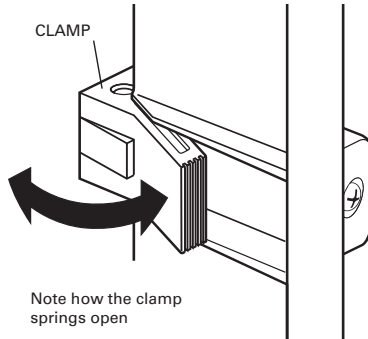

Figure 13: Clamp Close-Up
6. The mounting frame has spring-loaded clamps around its perimeter, which are designed to fold shut as the mounting frame is placed into the wall opening and spring open once inside, anchoring the mounting frame in the wall opening. See Figures 13 and 14. Loosen all clamp screws until the clamps are fully extended.